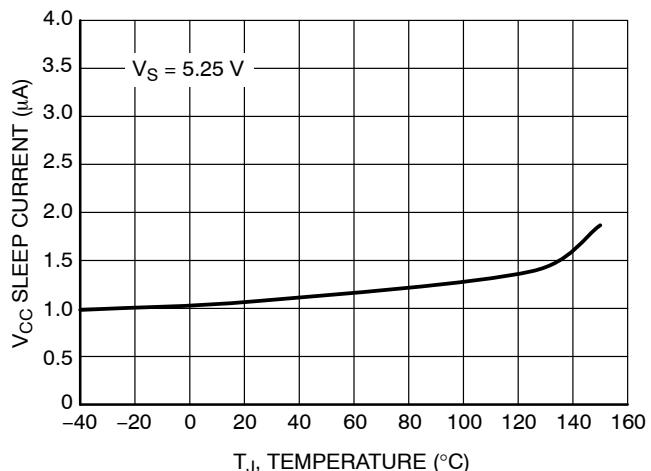

Figure 7. V_{CC} Sleep Supply Current vs. Temperature
6. For temperatures above 85°C, refer to Figure 7.
6. For temperatures above 85°C , refer to Figure 7.